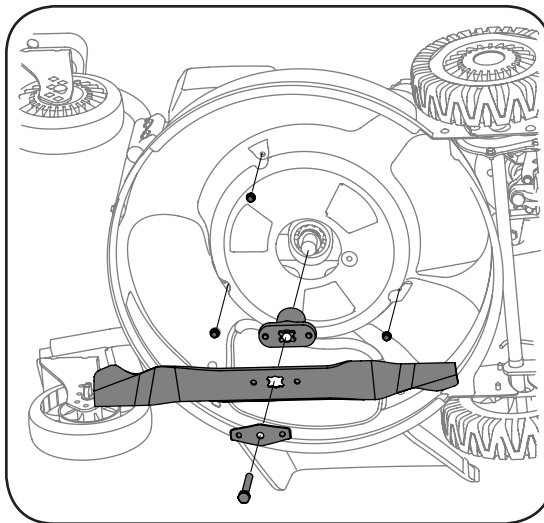

Figure 5-4: Remove blade, hardware, and baffle screws.
5. Remove blade, blade adapter, and related hardware. **Be sure to make note of the orientation of these items for reassembly.** Remove the three hex screws holding baffle to the deck. See Figure 5-4.